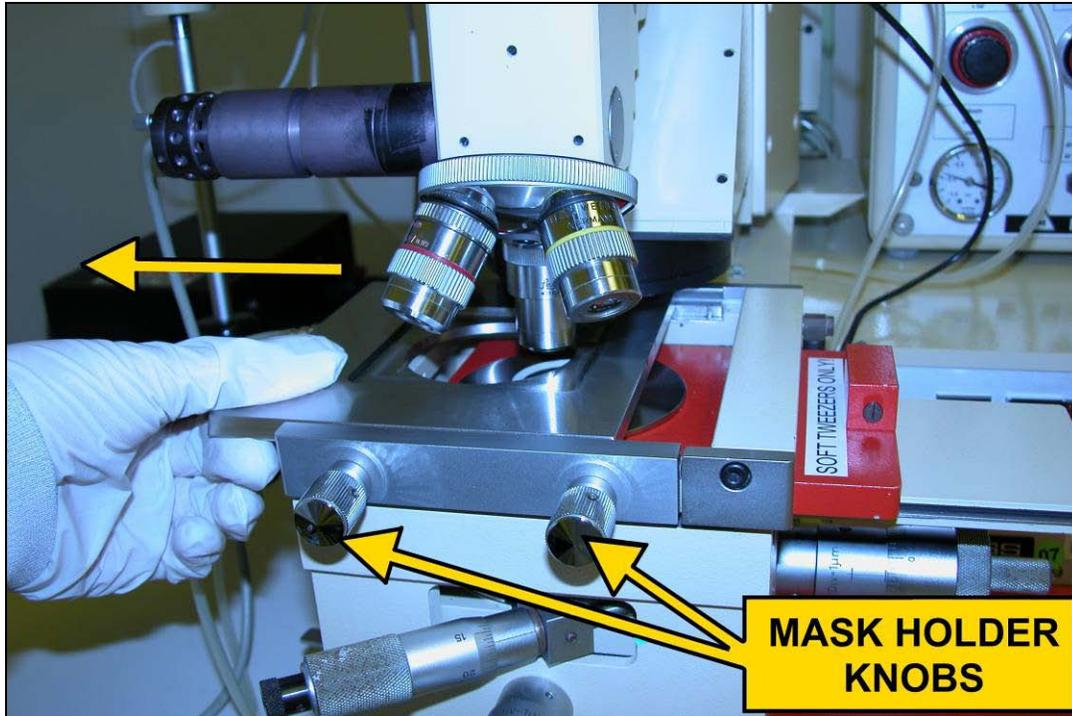

Figure 9-2 Turn mask holder knobs counterclockwise and pull to the left to remove.
STEP 1- Loading the mask. Begin by loosening the two knobs which clamp the maskholder onto the stage and removing the maskholder (Figure 9-2).